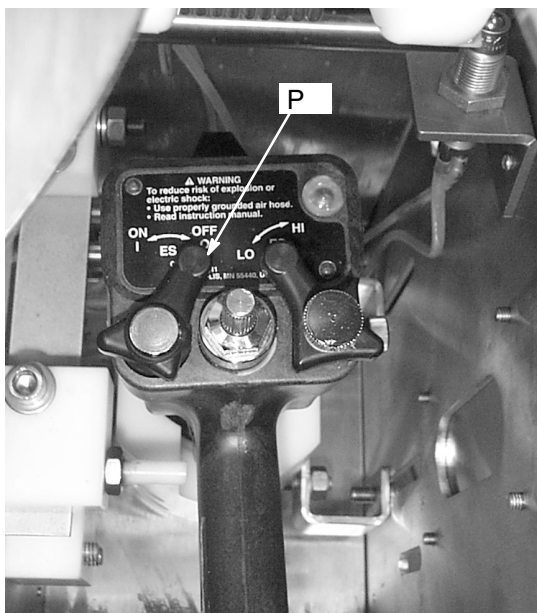

Fig. 20
2. If cleaning an electrostatic gun, turn off the electrostatics (P). See Fig. 20.